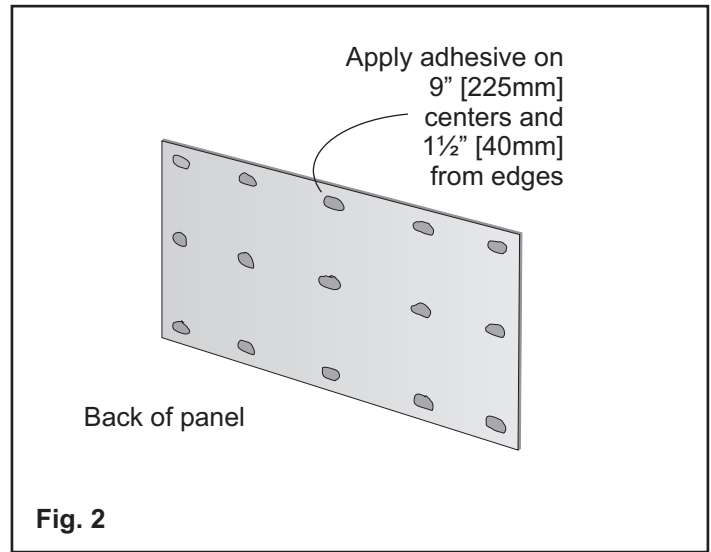

Fig. 2
2. Apply adhesive in small dabs to the back of panels on approximately 9" [225mm] centers and inset 1½" [40mm] from all perimeter edges to prevent adhesive from oozing out onto visible surfaces. See Fig. 2. Use a Formglas recommended adhesive (see page 5) to prevent the possibility of the adhesive bleeding through to the finished surface.